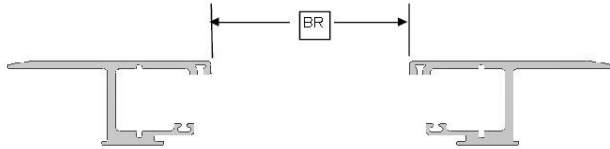

FIG. 5A
Finally, check for proper spacing by measuring between the rails at the canister and the tailgate end of the rails (Fig 5A). The measurement should be equal to or less than those in Fig 5B. The Rail Brackets and Shims have been pre-installed to achieve the proper Between the Rail dimensions (BR) when placed on an average factory truck bed. However, not all truck beds are average dimensionally and some have optional plastic caps or over the rail spray-in bedliners.
Run the adjusting bolt inward toward the bed wall, putting some pressure on the foot. Continue running the bolt inward using the knob until the rail is visually level. The adjusting bolt can be removed and the base flipped 180 degrees to adjust for varying clearance with the bed wall (FIG. 6D). Verify the BTR dimension after the rails are leveled (STEP 5, FIG 5A & 5B).